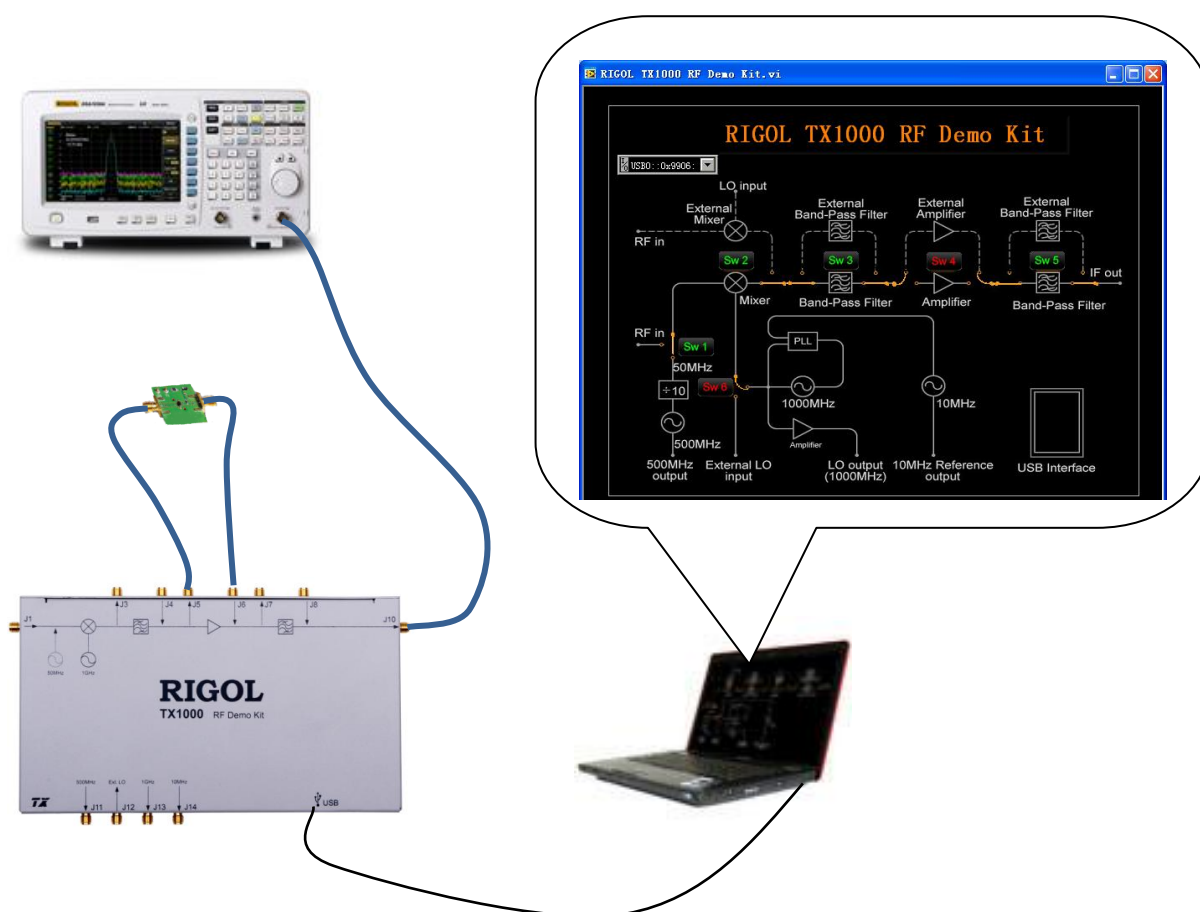

Figure 14 The Influence of the Performance of PA on the System
- Connect the spectrum analyzer, RFDK-TX and PC as shown in figure 14 and replace the PA of the RFDK-TX;